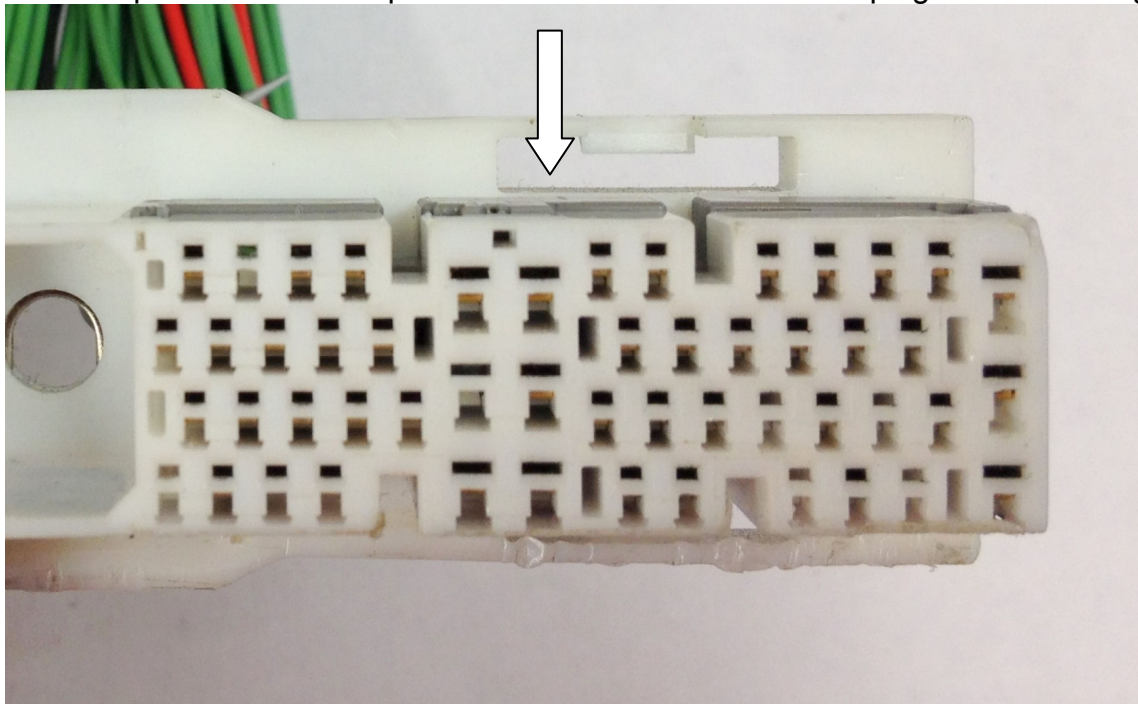

Figure 9: Ensure pin lock is relocked
6. Push the pin lock back into place until it is flush with the ECU plug as shown in figure 9: